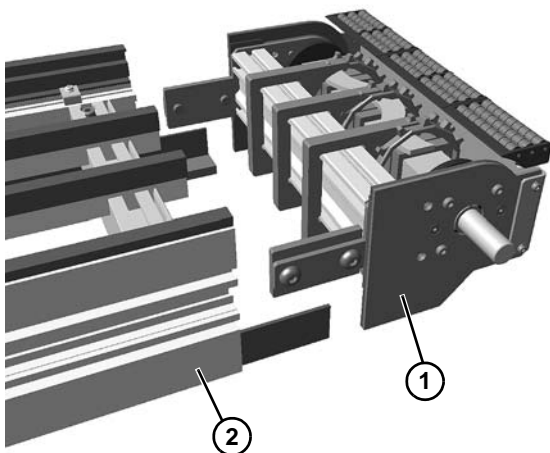

Figure 62
3. Remove the drive tail assembly (**Figure 62, item 1**) from the frame (**Figure 62, item 2**).